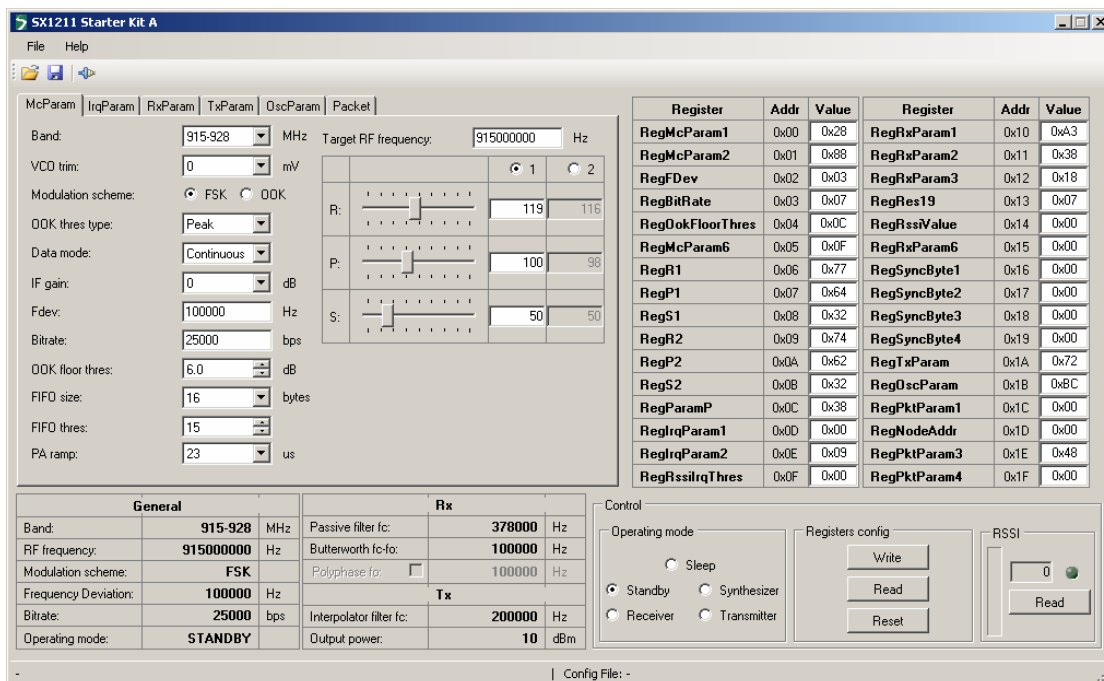

Figure 6. SX1211 User Interface, Default Settings
5. Once connected the SX1211SKA shows the default configuration of the SX1211 register settings upon power-up (as shown in Figure 6).